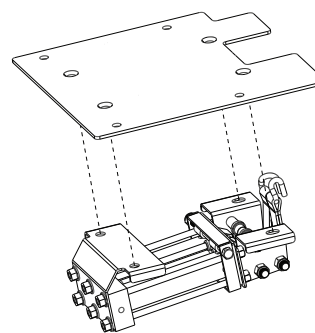

Figure 3
4. Position the unit in place. **See Figure 3.**
7. Torque each mounting bolt (4) on S4S to 35-40 ft-lbs.